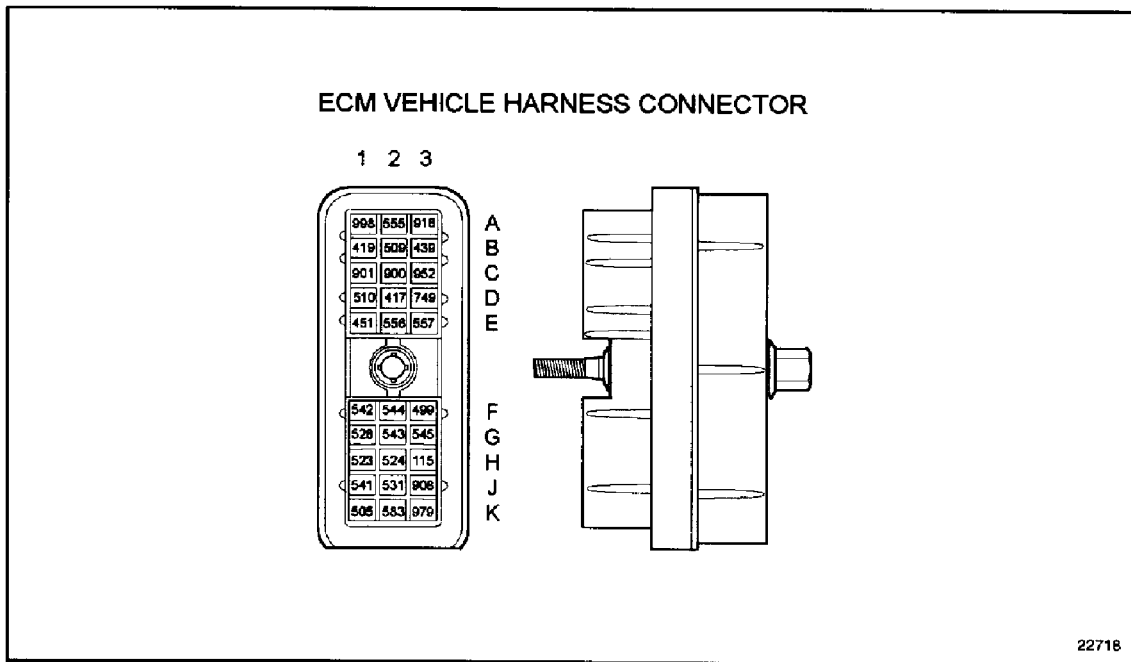

Figure 54-5 ECM Vehicle Harness Connector
1. Check the terminals at the ECM engine harness connectors for bent, corroded, and unseated pins or sockets, on both the ECM and harness sides. See Figure 54-5.